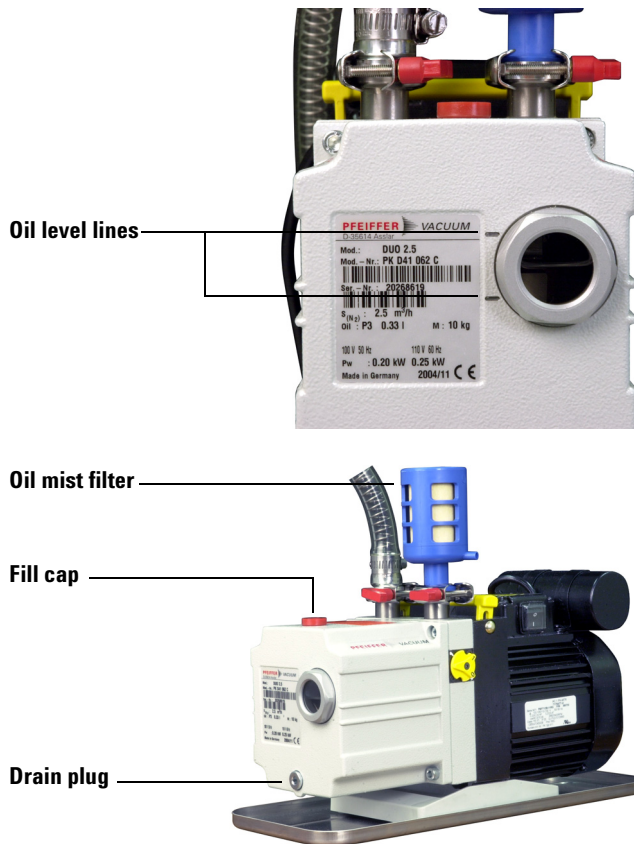

Figure 9 Standard foreline pump
- 1 Examine the oil level window (Figure 9).
- 3 Place a book or other object under the back of the pump motor to tilt the front of it down slightly. Remove the fill cap. See Figure 9.